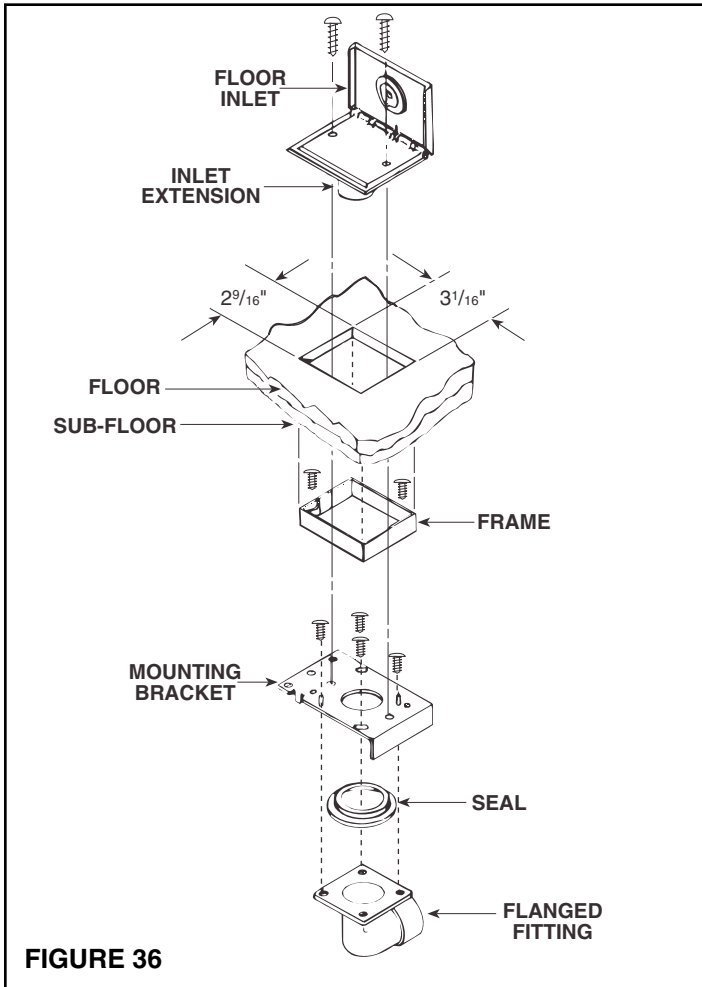

FIGURE 36
2. Determine direction of tubing and attach appropriate flanged fitting to mounting bracket with four (4) screws supplied. **Be sure mounting bracket flange does not interfere with tubing and seal is securely in place.**
3. Refer to Figure 36. Position bracket with frame and flanged fitting assembly into cutout from below and secure to sub floor.
7. Refer to Figure 36. Secure floor inlet in place with two screws.